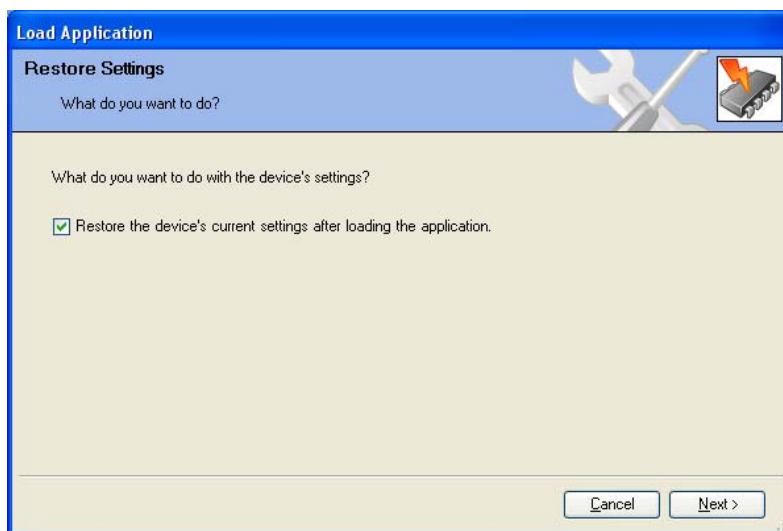

Figure 5-4. Load Application Screen
8. Make sure you select the "Restore the device's current setting after loading the application" (Figure 5-4).